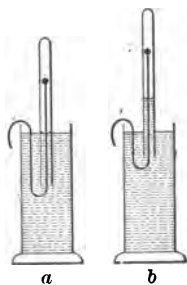

Fig. 5.
(B) 1. Place a graduated tube mouth downward in a dish of water, adjusting it so that the water within and without the tube stands at the same level. (See Fig. 5 *a*.)
4. Allow the apparatus to stand until the water ceases to rise (Fig. 5 *b*), then lower the graduate until the water within and without again stands at the same level.